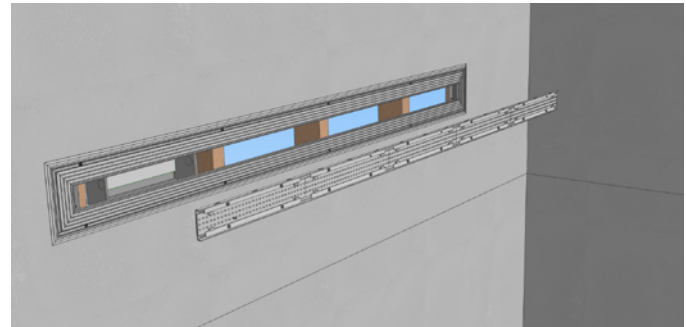

figure 5 - Mounted fixture housing with LED assembly removed
11. Bring LED assembly next to fixture and make the low voltage electrical connection to the driver. *fig. 5*